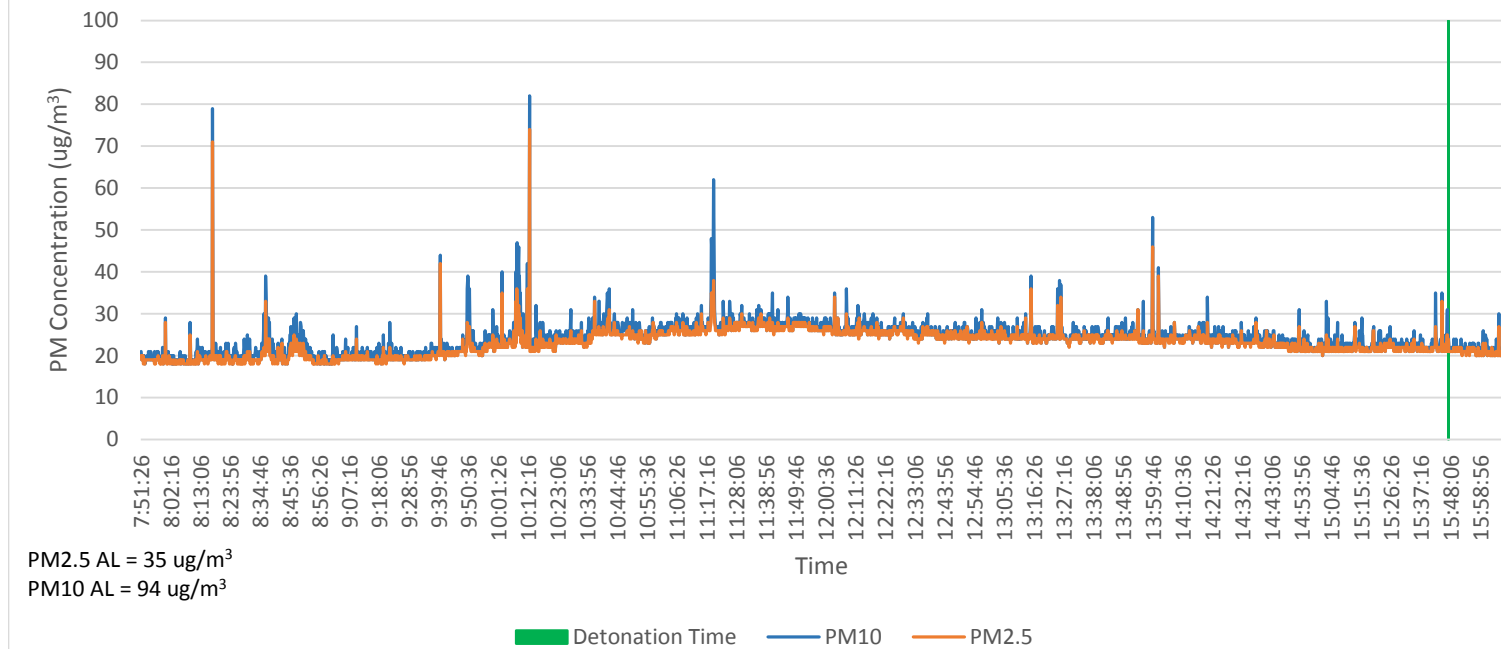

Figure 3-16. Time Series for PM2.5 Concentrations on 8/8/17
These general daily trends were further assessed by graphically comparing concentrations of PM_{2.5} and PM₁₀ along a time series for all three sampling locations. These comparisons are presented in Figures 3-16 to 3-25. The comparisons resulted in the conclusion that although PM_{2.5} and PM₁₀ concentrations during the RAM activities at each monitoring point generally follow the same daily pattern. The Fence Line Boundary Monitoring Point – Lower Factory Pond data more closely resembles the Demolition Area data than does the Fence Line Boundary Monitoring Point – Waterford data. Additionally instantaneous spikes in particulate concentrations in the Demolition Area are typically much larger than for the two residence areas.
- Figure 3-16. Time Series for PM2.5 Concentrations on 8/8/17